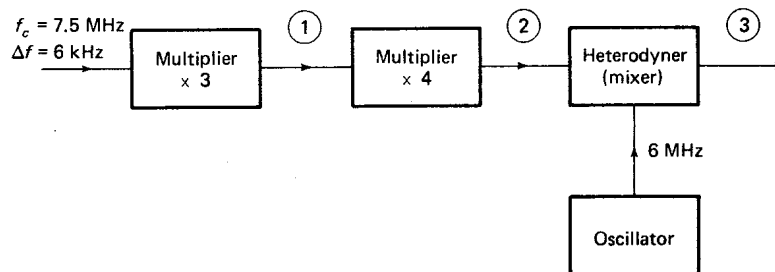

Fig. 4-15
- 4.17 Figure 4-15 is the block diagram of the frequency multiplier and heterodyne portion of an FM transmitter. Calculate the carrier frequency and frequency deviation of each of the points: (a) 1, (b) 2, and (c) 3.